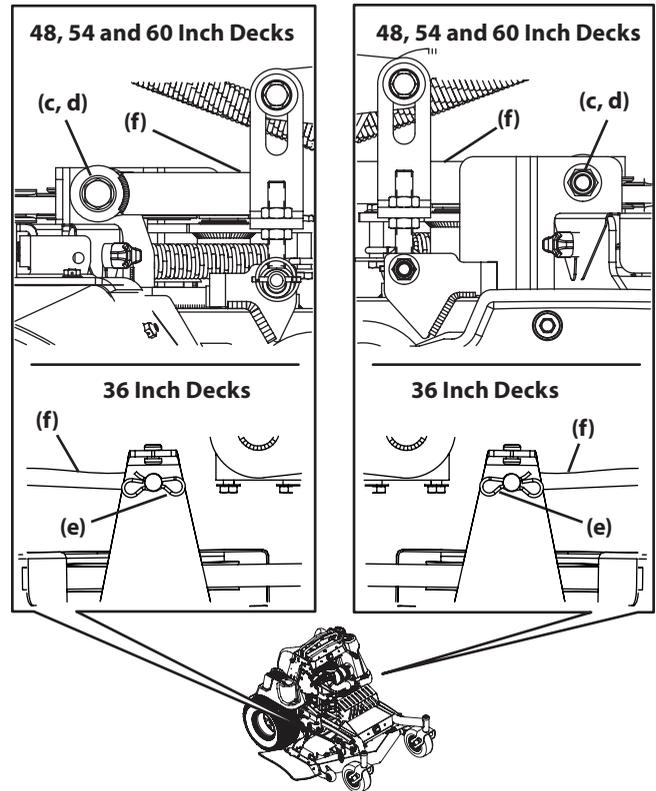

Figure 37
6. Remove the hex screws (g) flange lock nuts (d) (48, 54, and 60 inch decks) or the bow tie clips (e) (36 inch decks) securing the front deck control rods (f) to the deck (Figure 37).